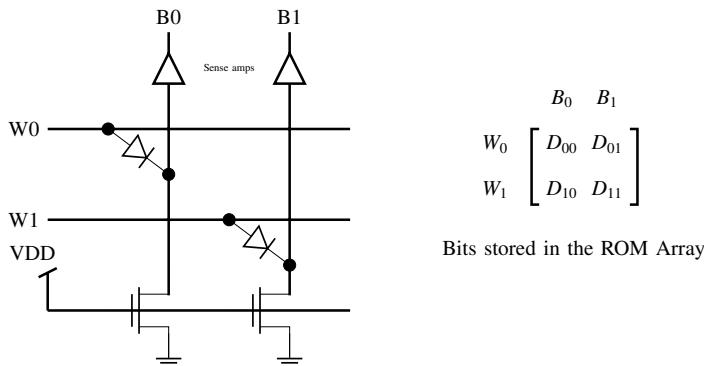

Fig. 3.15: 2×2 ROM array
29. A 2×2 ROM array is built with the help of diodes as shown in the circuit below in Fig. 3.15. Here W_0 and W_1 are signals that select the word lines and B_0 and B_1 are signals that are output of the sense amps based on the stored data corresponding to the bit lines during the read operation.